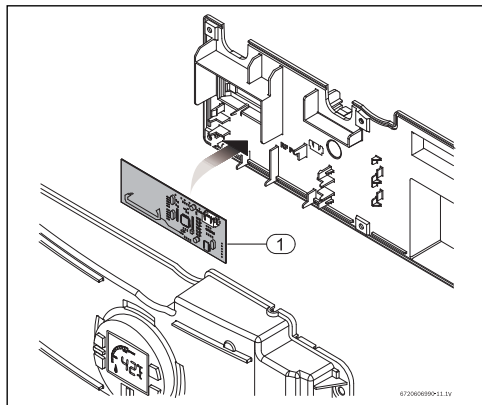

Fig. 9
- ▶ Place the remote control PCB in the back cover of the control unit as shown in Fig. 9.